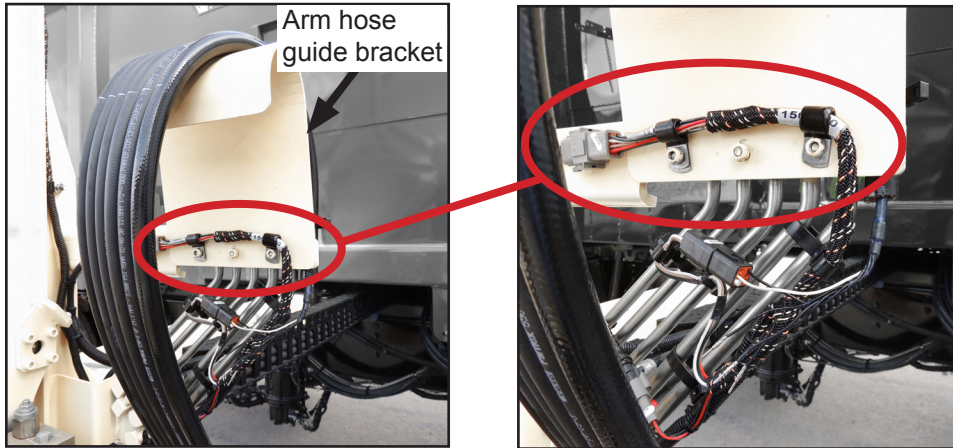

Figure 3
6. Remove the harness from the arm hose guide bracket by removing the clamps that hold the harness to the bracket (Figure 3). By doing this, the arm hose guide bracket can also be removed. Retain the bracket, clamps, and nuts.